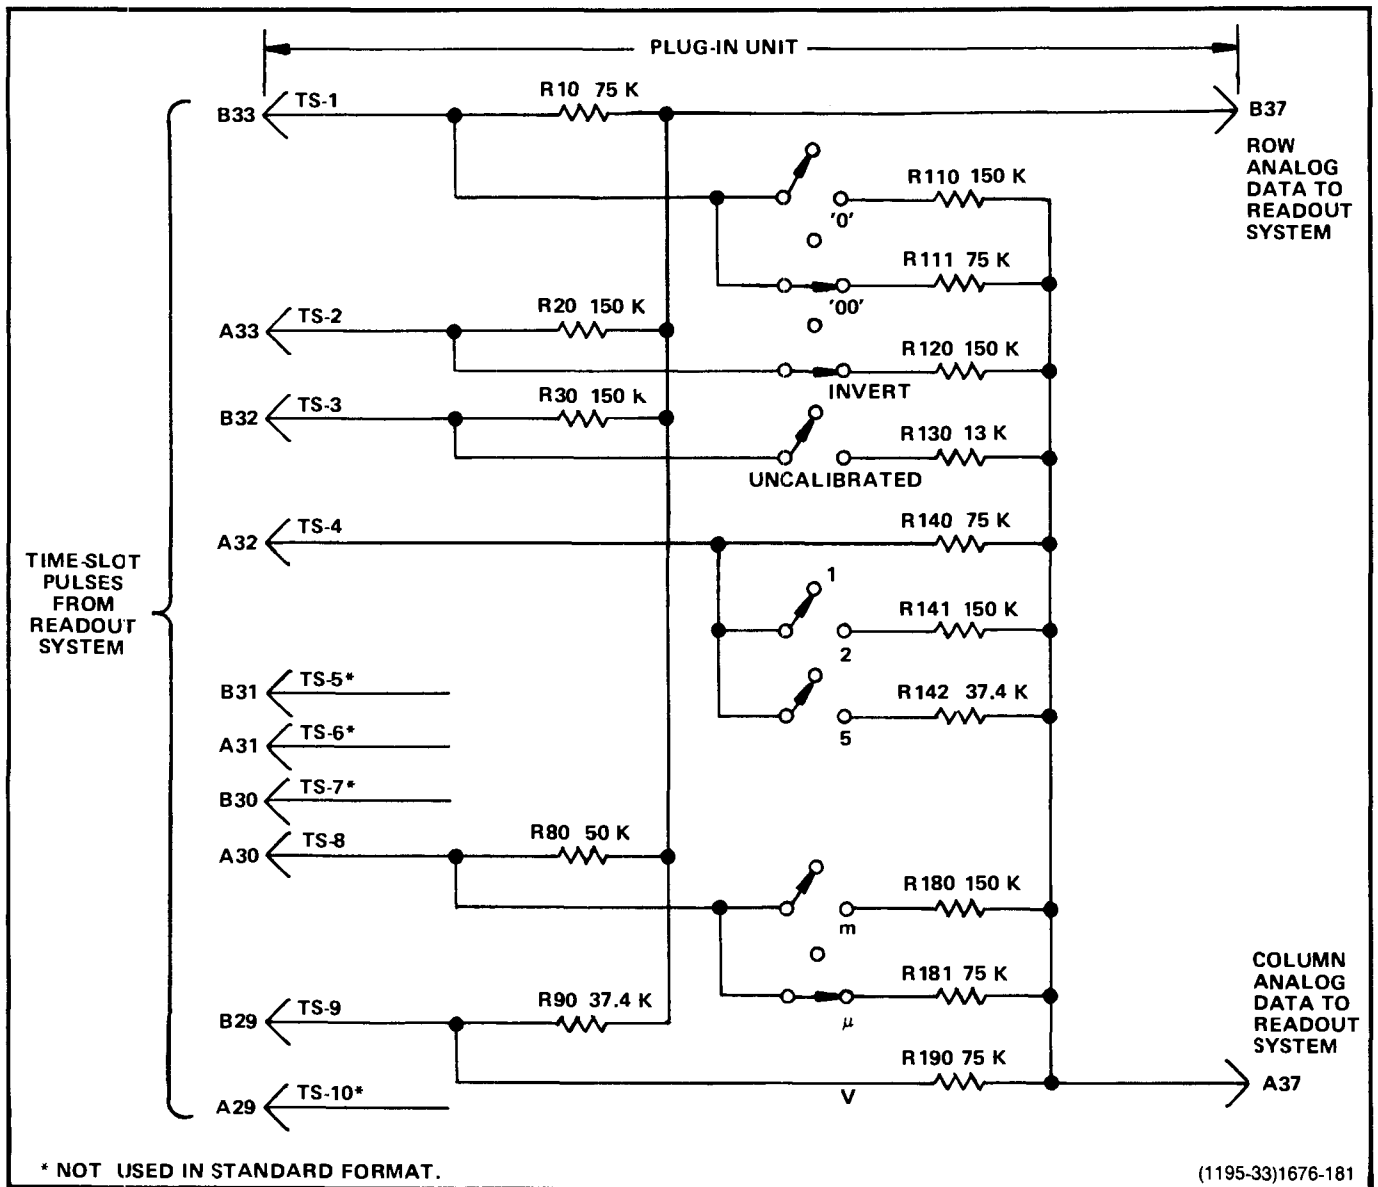
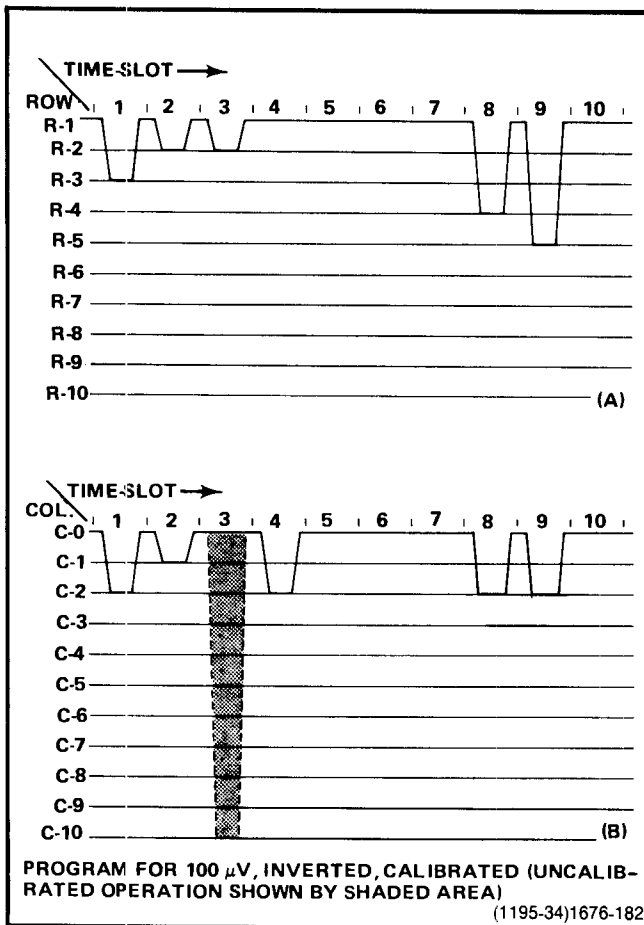

Fig. 3-31. Typical encoding scheme for voltage-sensing plug-in unit. Coding shown for deflection factor of $100 \mu\text{V}$.
Fig. 3-32. Idealized current waveforms of (A) Row analog data and (B) Column analog data.
Data is conveyed from the plug-in units to the Readout System in the form of an analog (current level) code. The characters that can be selected by the encoded data are shown on the Character Selection Matrix (see Fig. 3-26). Each character requires two currents to define it; these currents are identified as the column current and the row current, corresponding to the column and row of the matrix. The column and row data is encoded by programming the plug-in units. Figure 3-31 shows a typical encoding scheme using resistors for a voltage-sensing amplifier plug-in unit. Notice that the 10 time-slot (TS) pulses produced by the Time-Slot Counter stage are connected to the plug-in unit.
For example, in Fig. 3-31 resistors R10 through R90 control the row analog data, which is connected back to the Readout System. Figure 3-32 shows an idealized output current waveform of row analog data, which results from the time-slot pulses. Each of the row levels of current shown in these waveforms correspond to $100 \mu\text{A}$ of current. The
The Column analog data is defined by resistors R110 through R190. The program resistors are connected to the time-slot lines by switch closures to encode the desired data. The data as encoded by the circuit shown in Fig. 3-31 indicates a $100 \mu\text{V}$ sensitivity with the crt display inverted and calibrated deflection factors. This results in the idealized output current waveforms shown in Fig. 3-32 at the column analog data output, terminal A37 of the plug-in interface.
In the above example, the row analog data was programmed to define which row of the Character Selection Matrix was addressed to obtain information in each time-slot. The column data changes to encode the applicable readout data as the operating conditions change. For example, if the variable control of the plug-in unit was activated, R130 would be connected between time-slot 3 and the column analog data output line. This encodes 10 units of column current (see shaded area in time-slot 3 of the waveform shown in Fig. 3-32). Since one unit of row current is also encoded during this time-slot by R30, a > (greater than) symbol is added to the display. The crt readout will now show $\downarrow > 100 \mu$ V. In a similar manner, the other switches can change the encoded data for the column output and thereby change the readout display. See the following description for decoding this information.
The column analog data encoded by most plug-in units can be modified by attenuator probes connected to the input connectors of amplifier plug-in units. A special coding ring around the input connector of the plug-in unit senses the attenuation ratio of the probe (with readout-coded probes only). The probe contains a circuit that provides additional column current. For example, if a 10X attenuator probe is connected to a plug-in unit encoded for 100 μ V as shown in Fig. 3-32, an additional unit of current is added to the column analog data during time-slot 1. Since two units of current were encoded by R111 (see Fig. 3-31), this additional current results in a total of three units of column analog current during this time-slot. Referring to the Character Selection Matrix, three units of column current, along with the two units of row current encoded by R10, indicates that the prefix should be shifted one column to the left. Since this instruction occurs in the same time-slot that previously indicated that two zeros should be added to the display and only one instruction can be encoded during a time-slot, the zeros do not appear in the display. The crt readout will now be changed to 1 mV (readout program produced by plug-in same as for previous example).
umn Decoder. Notice on the Character Selection Matrix of Fig. 3-26 that when row 4 is programmed, a reduction of one column results in a one-column shift of the prefix. For example, with the 100 μ V program shown in Fig. 3-31, if the data received from the plug-in called for a shift in prefix, the crt readout would be changed to 1 mV (zeros deleted by program; see Encoding the Data).